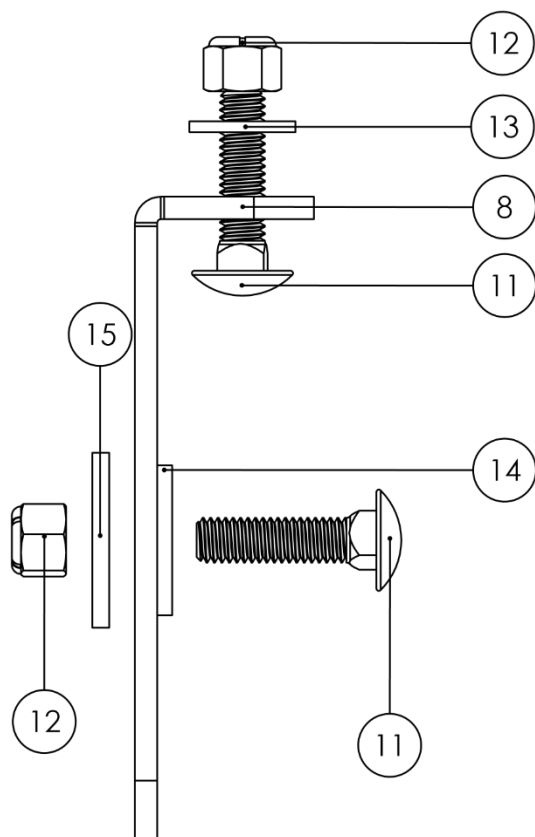

Figure 1
1. **Install the Stake Pocket Insert Plates.** To install the Bases (Item No. 3) you must first install the Stake Pocket Insert Plates (Item No. 8). These Stake Plates will be held by two bolt assemblies and be put together in the order as shown in Figure 1. The top bolt assembly will hold the base while the bottom will provide additional stabilization to the rack. Begin by threading the top bolt assembly onto the Stake Pocket Insert Plate but allow the Lock Nut (Item No. 12) to sit at the top of its thread. Follow up with the bottom bolt assembly by only inserting the 1.5" Carriage Bolt (Item No. 11) for now. Next, insert the Stake Pocket Insert Plate into your truck's stake pocket. It may be necessary to tilt the plate diagonally if you are having difficulties during insertion. Complete the installation by tightening both bolt assemblies at increasing firmness. If necessary, use the provided Rubber Washer (Item No. 14) to stabilize and reduce the gap between the plate and the truck's bed frame.